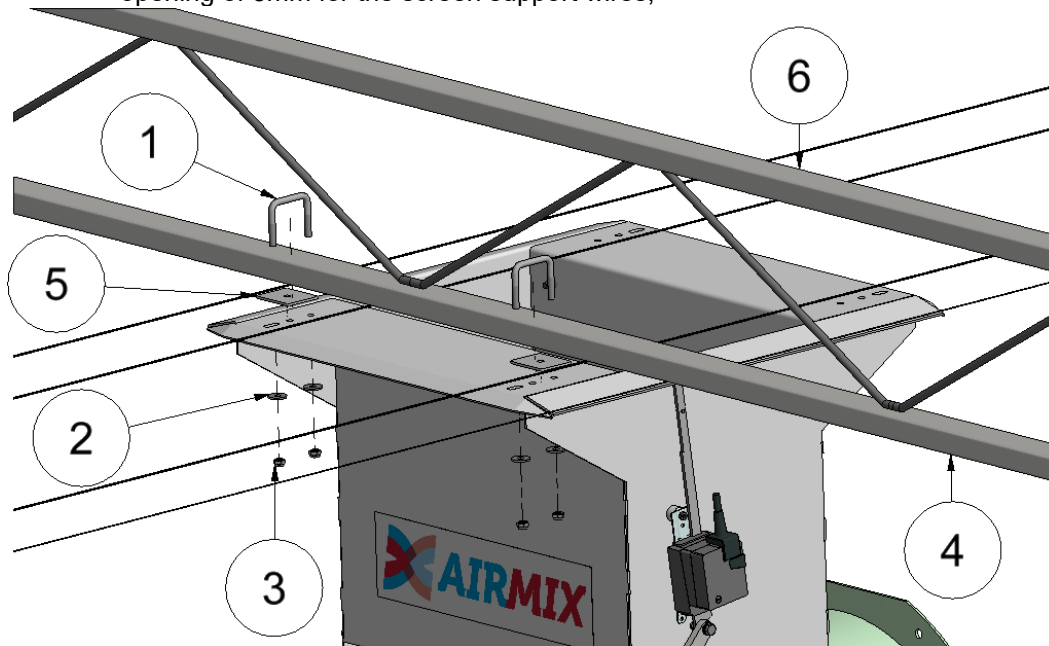

Figure 3 Attaching the Airmix to the truss lattice
- Assembly (see Figure 3);
- Attach the Airmix to the lower bar of the truss lattice (4) with two clamps (1), four M8 fender washers (2) and four M8 lock nuts (3);
- Use the padding strip (5) between the truss lattice bar and Airmix housing to create an opening of 3mm for the screen support wires;